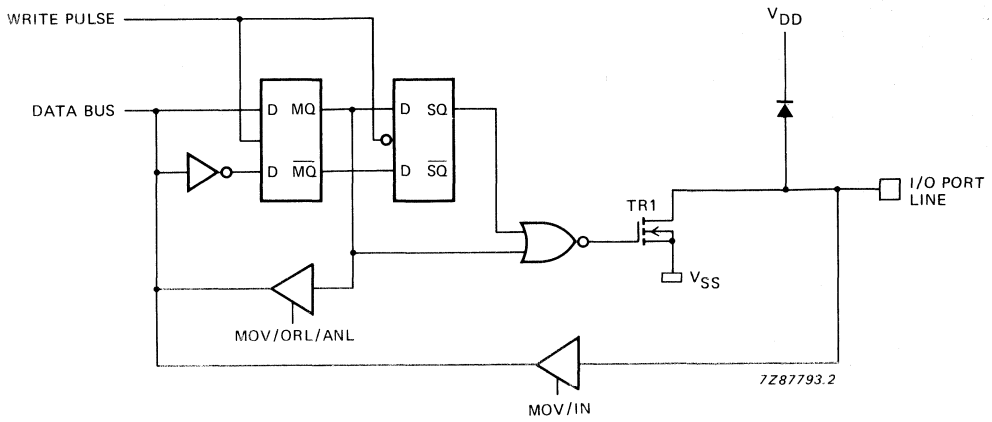

Fig. 11 Open drain output.
- Option 2 – OPEN DRAIN; quasi-bidirectional I/O with only an N-channel open drain output. Application as an output requires connection of an external pull-up resistor (Fig. 11).